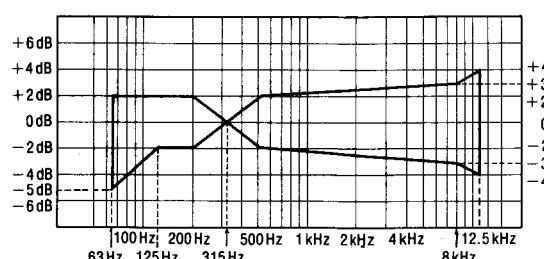

Fig. 6
<p>Fig. 6</p>
2. Assure that the frequency response is within the range shown in Fig. 6 for both L-CH and R-CH.